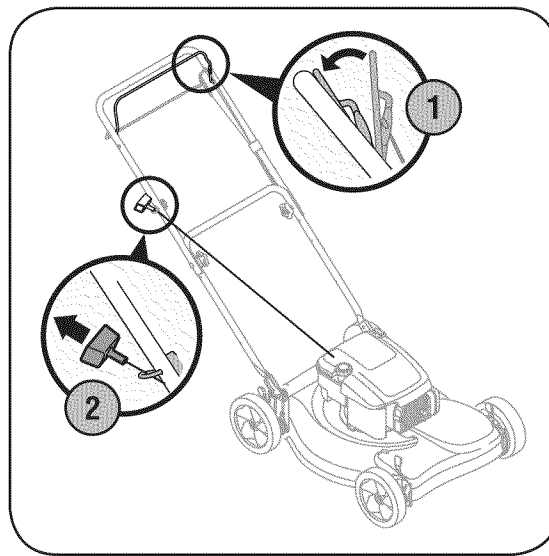

Figure 2
1. Standing behind the mower, squeeze the blade control against upper handle. See Figure 2.
2. Holding these two handles together firmly, grasp recoil starter handle and pull rope out with a rapid, continuous, full arm stroke. See Figure 2. Keeping a firm grip on the starter handle, let the rope rewind slowly. Repeat until engine cranks. Let the rope rewind each time slowly.